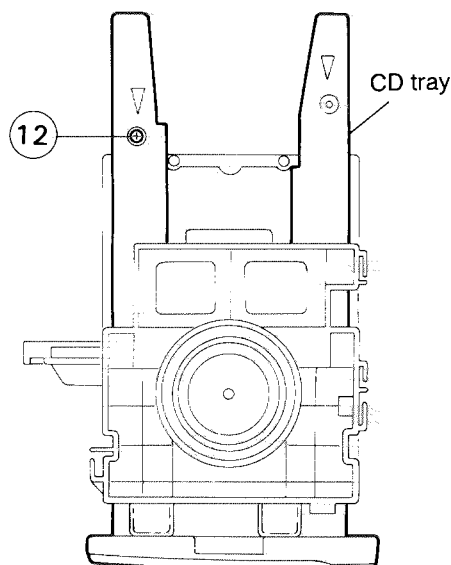

Fig. 5-16
(See Figs. 5-16 and 5-17)
3. Remove the one screw (12) provided for the CD tray stopper (See Fig. 5-16).